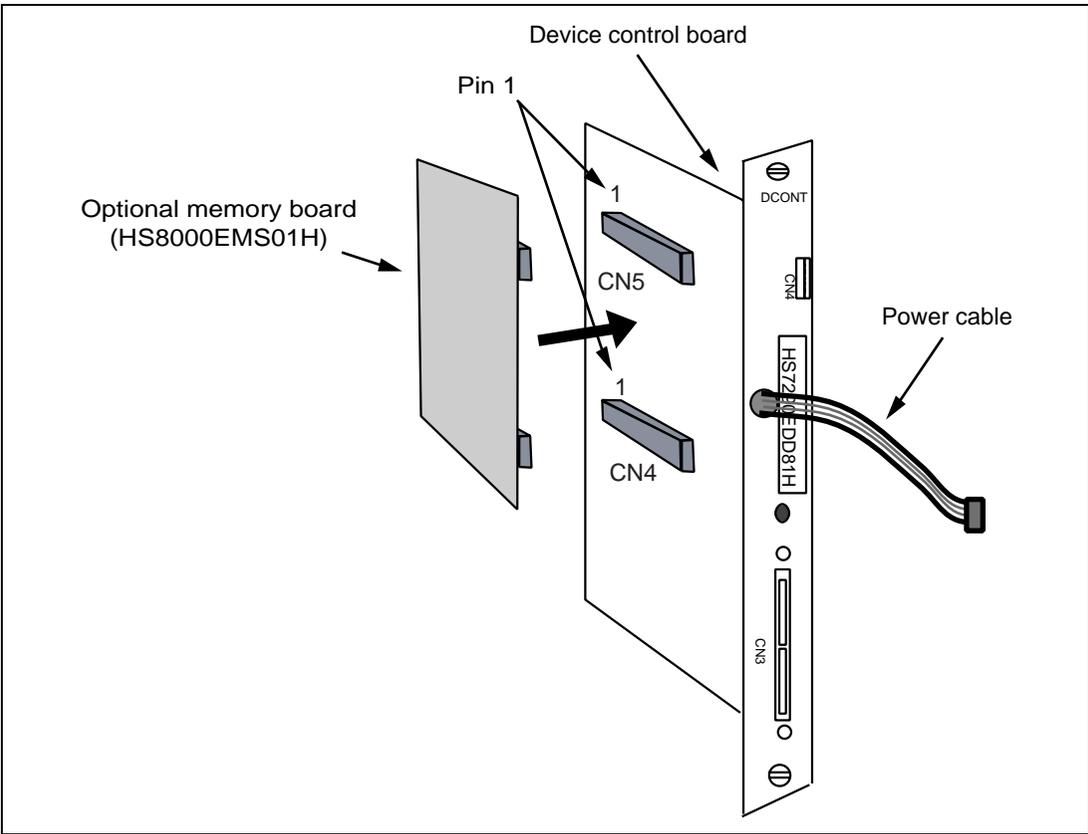

Figure 3.2 Connecting the Memory Board
4. When using the optional memory board, connect the optional memory board to the device control board as shown in figure 3.2. Then connect the device control board to the emulator station. Confirm pin 1 of CN4 and CN5 and align pin 1 with the optional memory board.